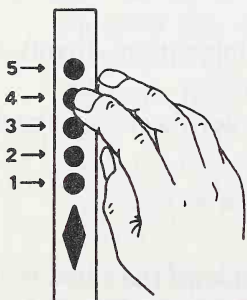

Fig. 24-3.
2. Release the knob and push the existing combination (Fig. 24-3).